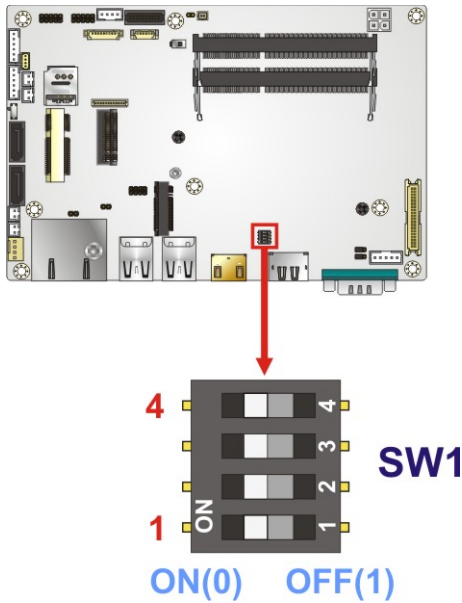

Figure 4-15: LVDS Panel Resolution Select Switch Location
- Jumper Location:** See Figure 4-15